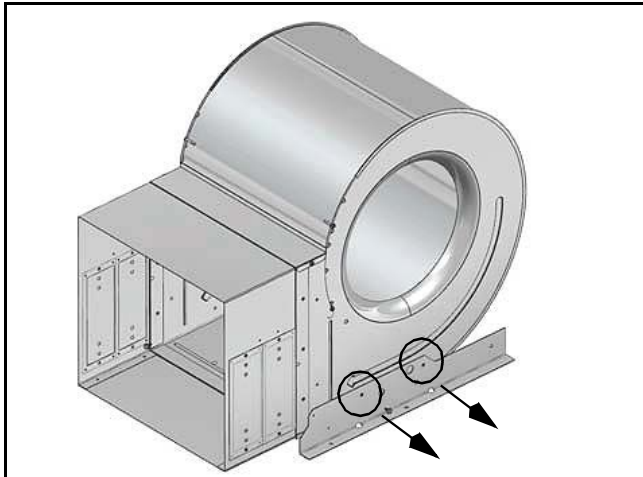

Fig. 16
7. Remove the remaining bracket by removing the two screws securing it and retain the bracket. (See Fig. 16.)